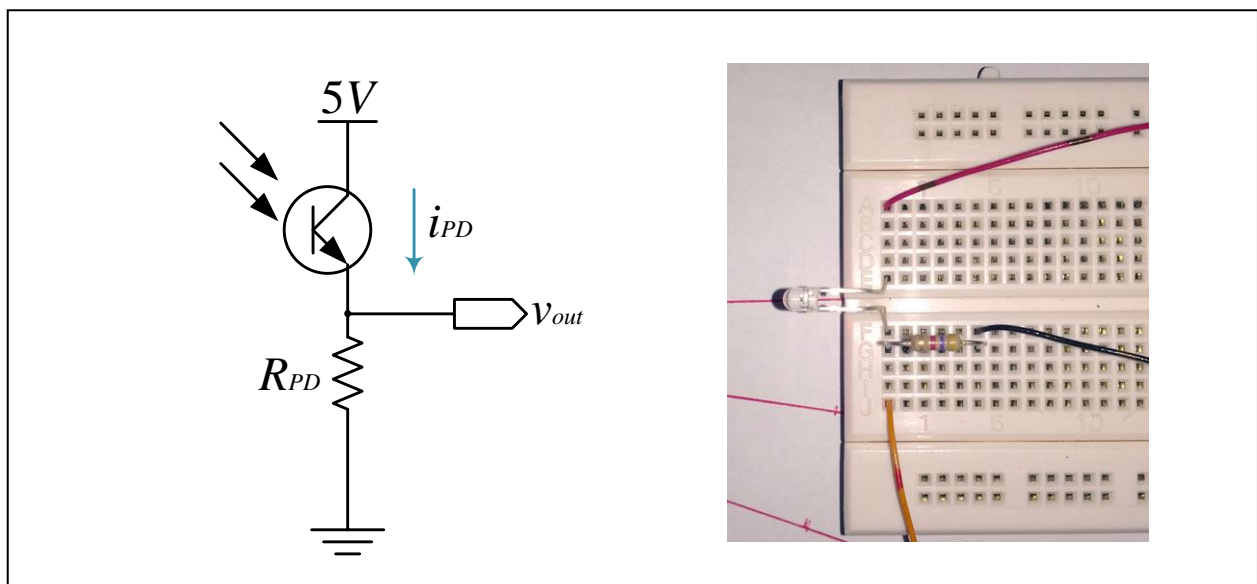

Figure 3: Left, Phototransistor Circuit. Right, PT overhanging the narrow edge of the breadboard.
2. **On a separate breadboard**, construct the following circuit (Figure 3, Left) using the TEPT4400 phototransistor. Power the 5V rail using a separate supply channel (be careful with your power supply, do not exceed 5.5V in this circuit). Choose  $R_{PD} = 1k\Omega$  for now. Ensure the phototransistor overhangs the narrow edge of the breadboard (Figure 3, Right).